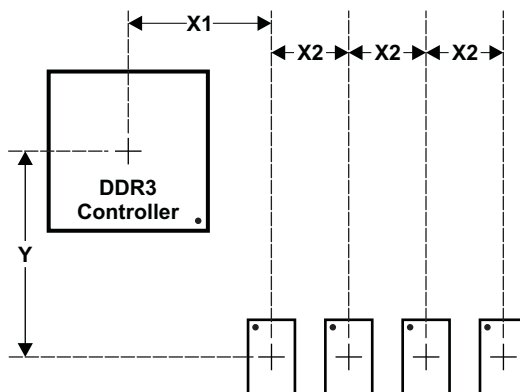

Figure 8-15. Placement Specifications
Figure 8-15 shows the required placement for the processor as well as the DDR3 devices. The dimensions for this figure are defined in Table 8-19. The placement does not restrict the side of the PCB on which the devices are mounted. The ultimate purpose of the placement is to limit the maximum trace lengths and allow for proper routing space. For a 16-bit DDR memory system, the high-word DDR3 device(s) are omitted from the placement.
- (1) For dimension definitions, see Figure 8-15.
(2) Measurements from center of processor to center of DDR3 device.
(3) Minimizing X1 and Y improves timing margins.
(4) w is defined as the signal trace width.
(5) Non-DDR3 signals allowed within DDR3 keepout region provided they are separated from DDR3 routing layers by a ground plane.
(6) Note that DDR3 signals from one DDR3 controller are considered *non-DDR3* to the other controller. In other words, keep the two DDR3 interfaces separated by this specification.